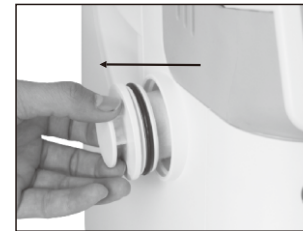

Figure 7
- ▶ The mesh in filter cleans once half a month. I -stage filter can be taken out of the foreside panel. (Figure7、 Figure18)